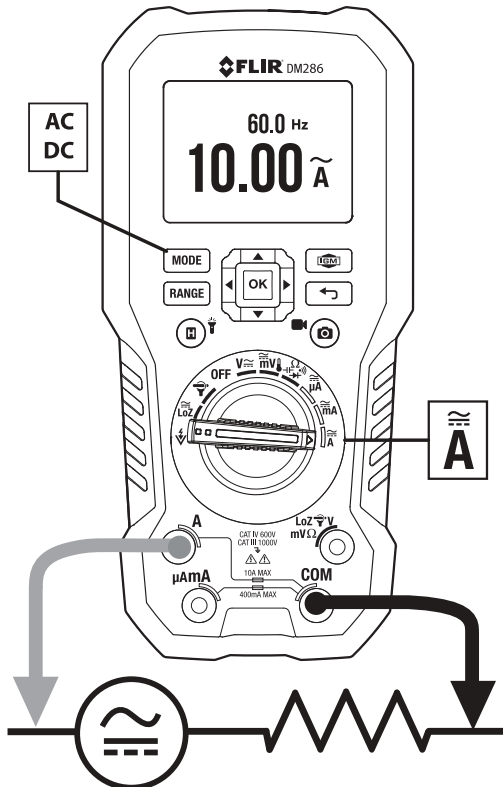

Fig. 9.10 High Current 'A' Measurements
4. Connect the probe leads in series with the part in accordance with **Fig. 9.10** for 'A' measurements, **Fig. 9.11** for mA measurements, or **Fig. 9.12** for μ A measurements.